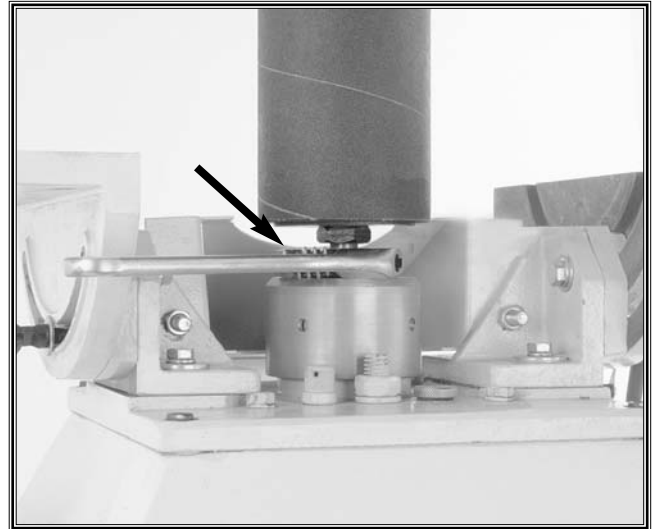

Figure 9. (Table removed for clarity only) Use an adjustable wrench to hold the jam nuts stationary during spindle removal.
1. Use an adjustable wrench to hold the jam nuts stationary as shown in **Figure 9**.